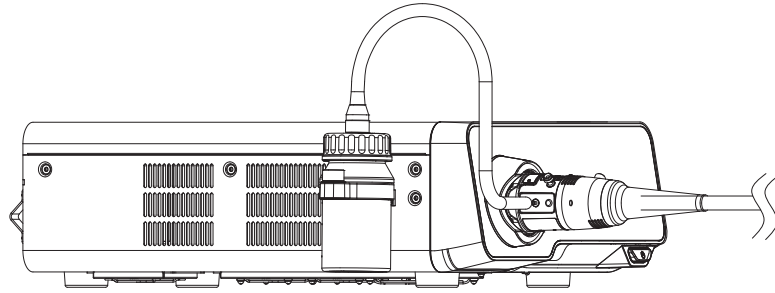

Figure 3-5 Connecting the tube and the connector
2. Connect the water bottle to the endoscope firmly, as shown in Figure 3-5.